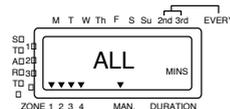

Figure 13
1. Turn dial to **AUTO**. Press **MANUAL**. Display shows **ALL**, solid ▼ over stations with programmed durations, and ▼ over **MANUAL**. (See Figure 13.)